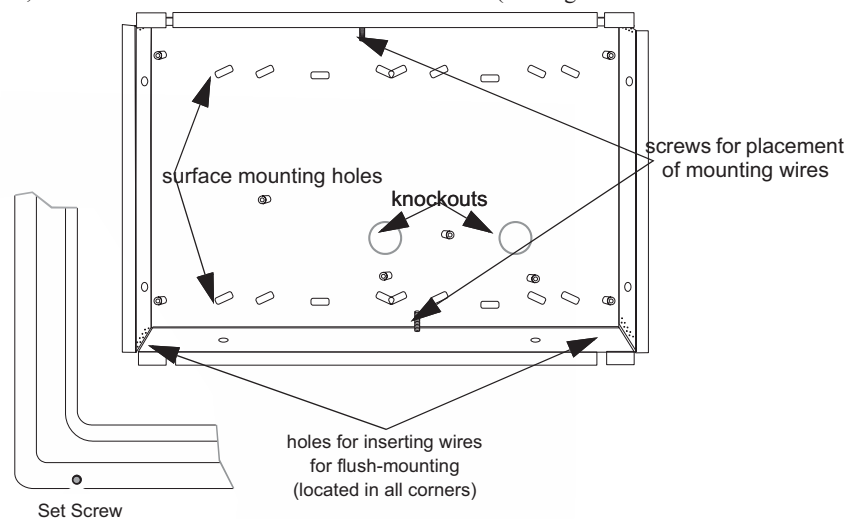

Figure 4.22 Annunciator Backbox and Bezel Details
The RA-1000 comes from the factory fully assembled. You must disassemble it for mounting. To disassemble the annunciator, use a 5/64" hex wrench to remove the set screws, located on the bottom of the annunciator bezel. (See Figure 4.22 for location of the set screws.)
1. Drill holes in the surface to match the screw holes on the backbox. Refer to Figure 4.22 for locations.
5. Replace the electronic assembly in the backbox. Place the bezel over the backbox and tighten the set screws on the bezel. Refer to Figure 4.22 for location of set screws.